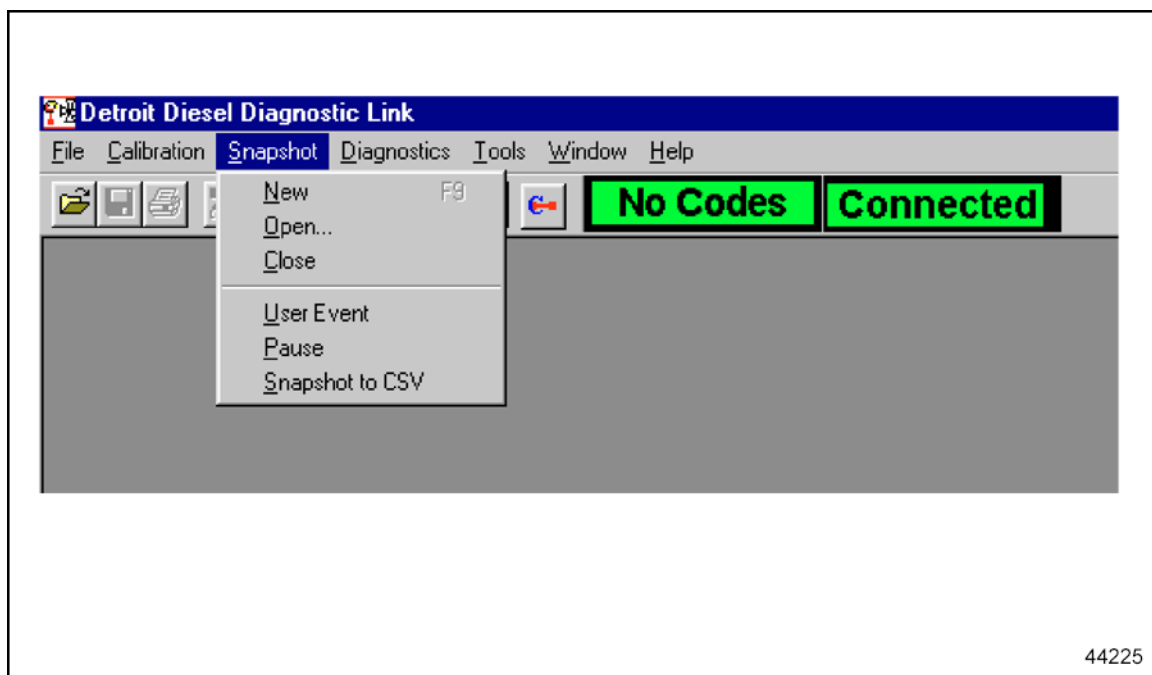

Figure 6-1 Snapshot Drop-Down Menu
2. Go to the **Snapshot** drop-down menu and select the **New** option by clicking once with the left mouse button. See Figure 6-1.